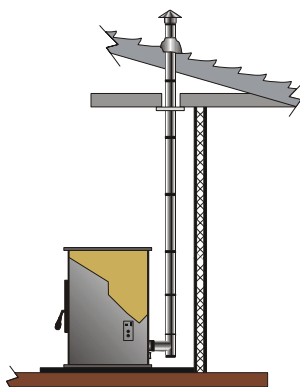

Figure 19
### VERTICAL INSTALLATIONS: (Figures 19 - 24)
-  **VERTICAL, THROUGH THE CEILING**, through another room or space, or attic, then through the roof, terminating with a rain cap. Figure 19.